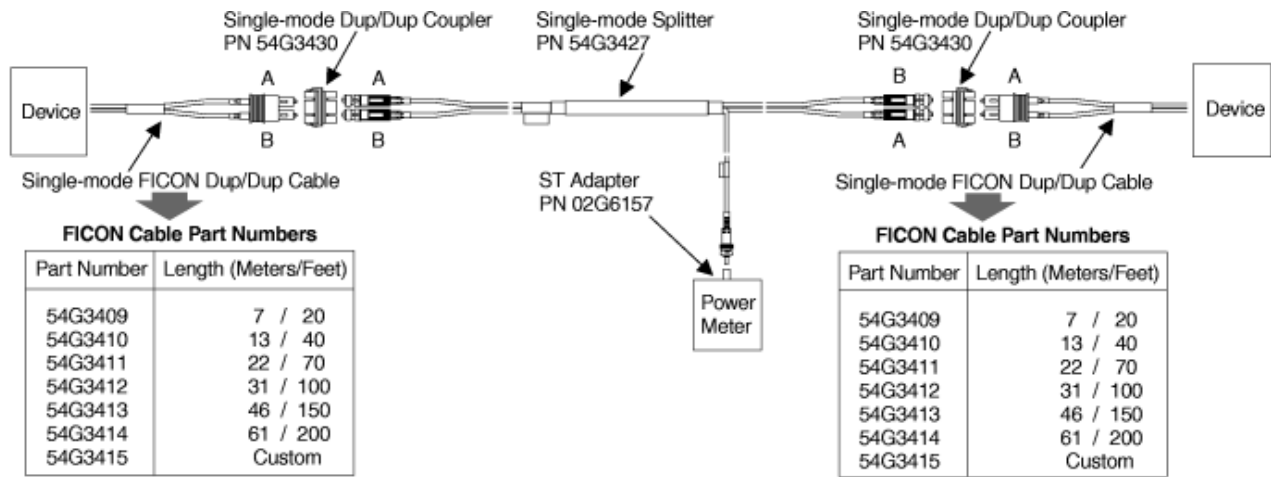

Figure 48. Isolating a single-mode link segment with a splitter tool
- Single-mode links - See Figure 48 on page 42.